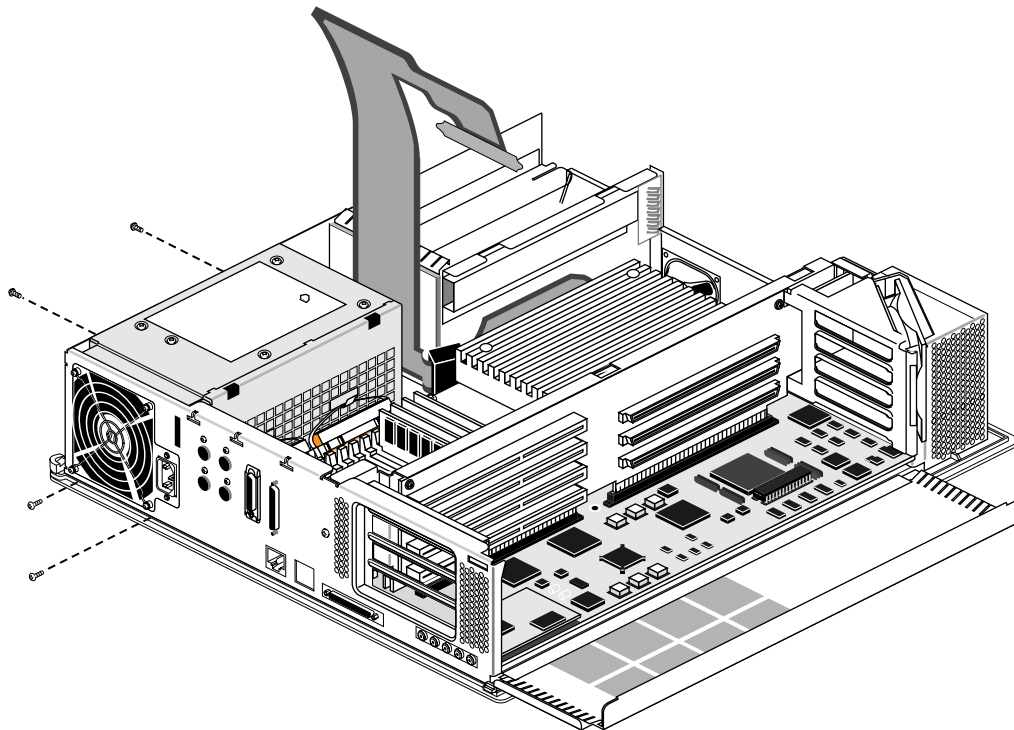

Figure 2-7 Removing the Power Supply Screws
6. Unfasten the four screws that hold the power supply in place. Two are located on the back of the system and the other two are located on the side of the system, as shown in Figure 2-7.